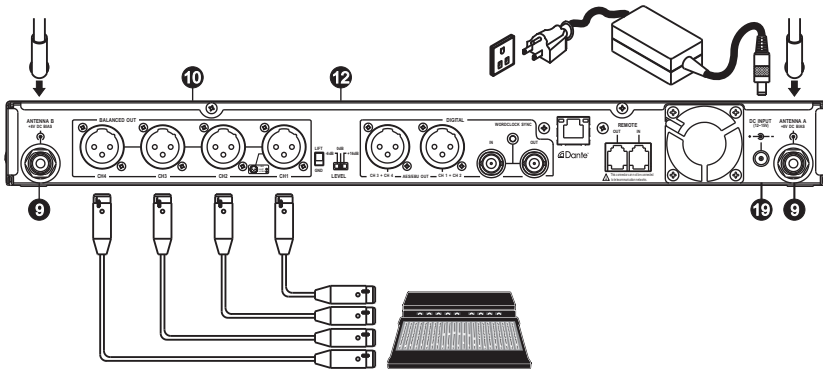

Fig. 2
II. Receiver Installation, Fig. 2
1. Connect an antenna to each antenna connector ⑨ on the rear panel.
2. Power Connection: Connect the power supply to the DC input jack ⑱ and plug the other end into an AC power source.
- (A) Each channel signal output can be connected to the mixer or amplifier's MIC IN jack by using a cable with balanced XLR connector, Fig. 2.